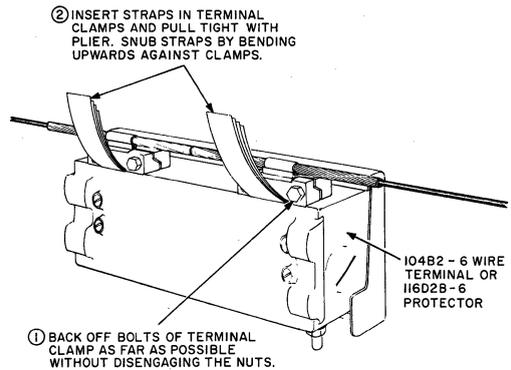

Fig. 4—Inserting Cable Supports in Terminal Clamps
- (c) Cut off the buckles from a pair of lashed cable supports and fold in half to obtain double thickness. Bend straps over the wire adapter on support wire with ends pointing down (Fig. 4).